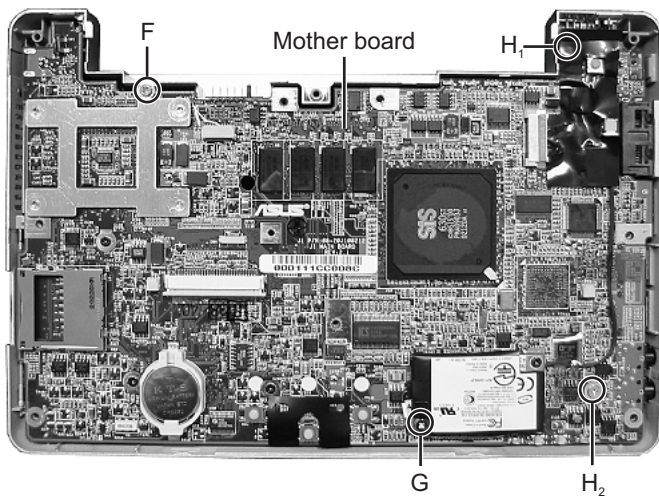
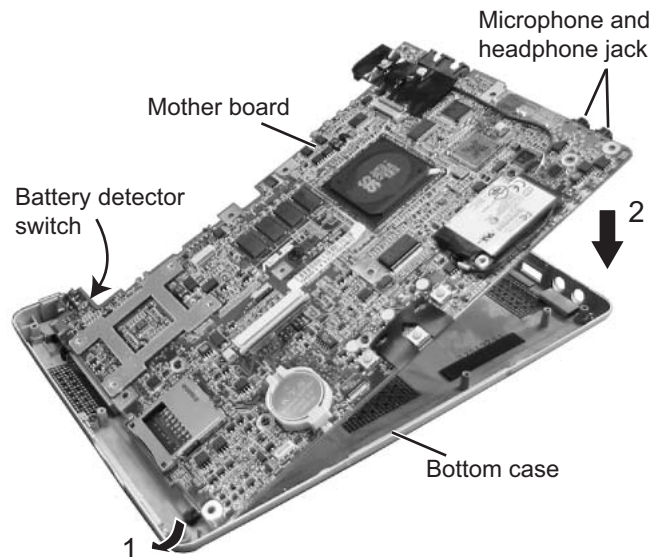

Fig.9
Fig.11
1.1.4 Removing the mother board (See Figure 9 ~ Figure 11)